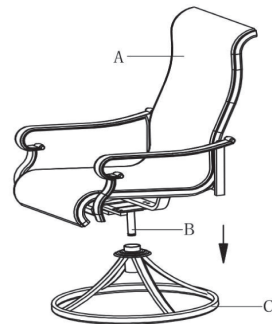

Figure 2
Step 3. Loosely attach the support bar (C) to the table leg (B) and table top (A) with bolts (F) and washer (G) as shown in figure 2.
Step 2. Place the chair frame (A) into the base (C) as show in Figure 2.